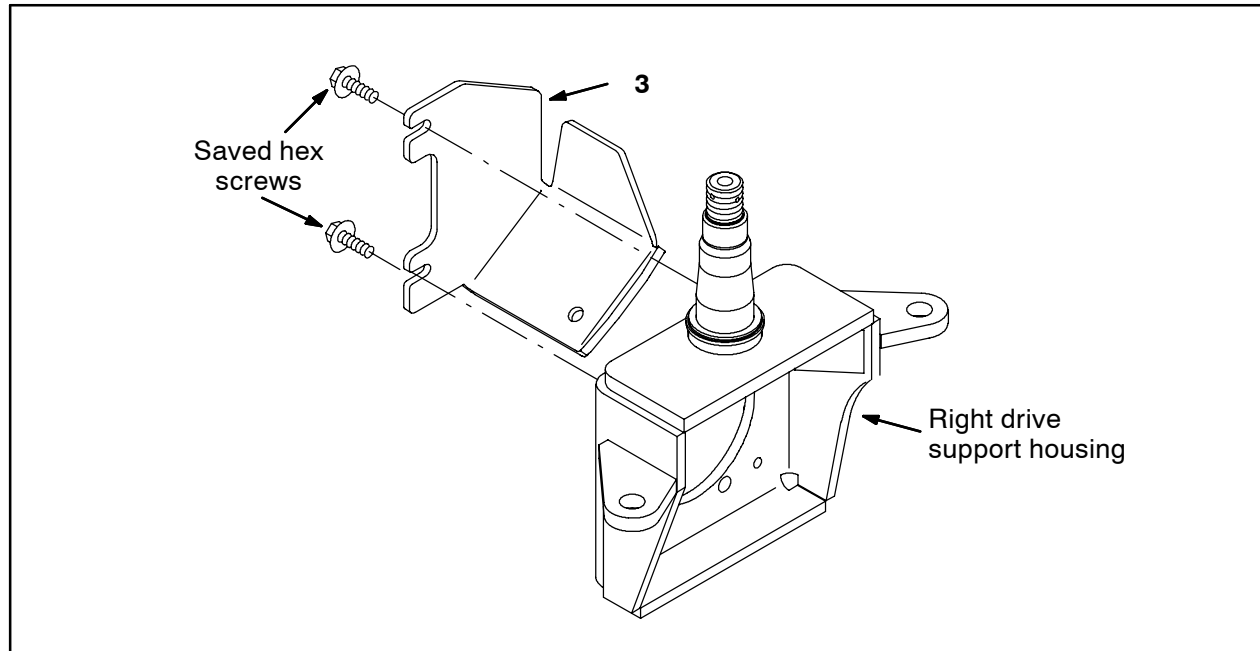

FIG. 5
14. Use saved hex screws to install the right rear guard (3) onto the right drive support housing. Refer to Fig. 5.